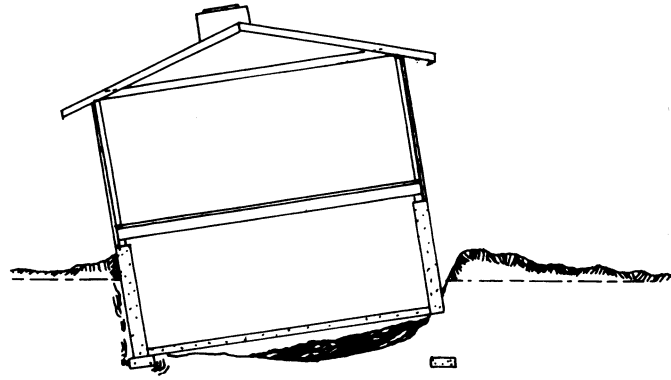

Figure 6: Floating
2. **DIAGNOSES**—Large amounts of water will enter the basement, generally under some degree of pressure, through cracks in the wall, floor, or wall-floor joint. In severe situations, the concrete walls or floor may buckle and rupture (see figure 5) or, in extremely severe and fortunately rare situations, the entire floor or structure may “float.” (see figure 6) Owners who suspect a high ground-water level or impervious soil problem should contact their local Soil Conservation Service Office for diagnostic assistance and referral (see footnote 11). Frequently, neighbors with similar basements will experience similar moisture problems.